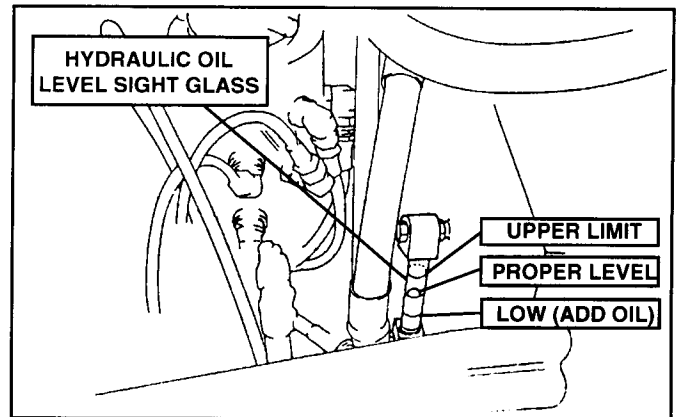

FIGURE 4.111
20. Fill Hydraulic Tank to proper level with fresh, clean Hydraulic Oil through Hydraulic Return Filter. See Figure 4.111.